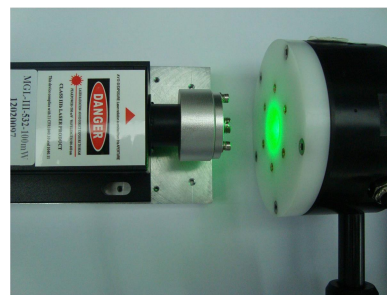

Figure 3: Laser output power of unconnected fiber
2. Turn on the laser, maximum the output power of laser. The output of the laser will highly divergent because of the focusing optical system in the fiber coupler. (Figure 3) Let the laser warm up at least 5 minutes 20 minutes is recommended. Make sure an eclipser in front of the aperture.